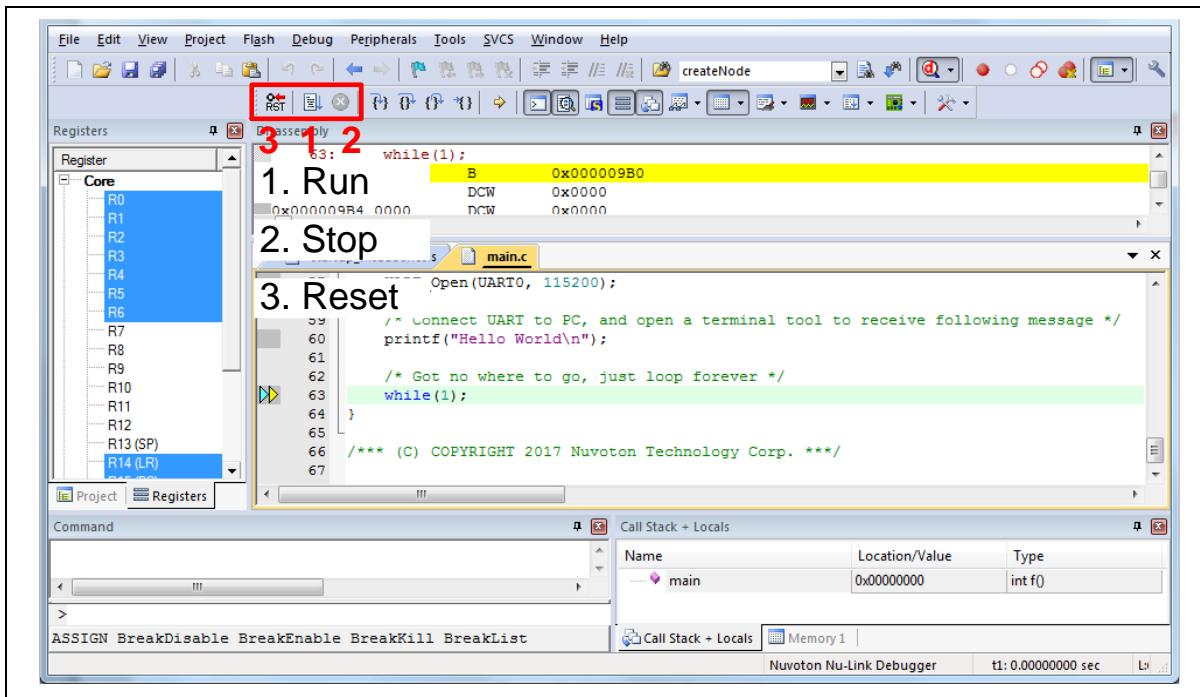
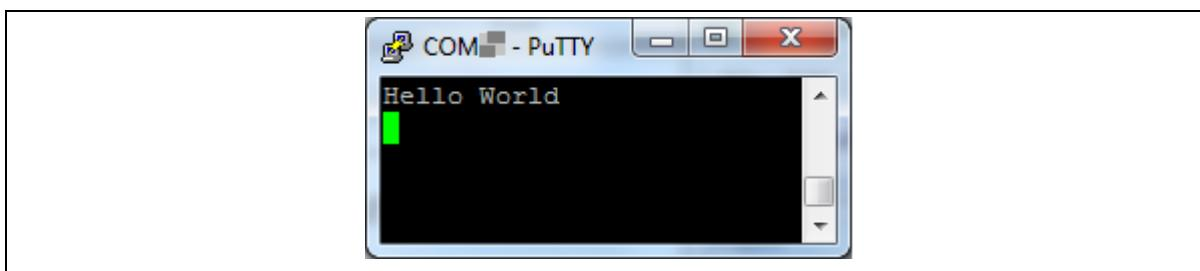

Figure 4-13 Keil MDK Debug Mode
Figure 4-14 Debug Message on Serial Port Terminal Windows
4. Figure 4-13 shows the debug mode under Keil MDK. Click “Run” and the debug message will be printed out as shown in Figure 4-14. User can debug the project under debug mode by checking source code, assembly language, peripherals' registers, and setting breakpoint, step run, value monitor, etc.